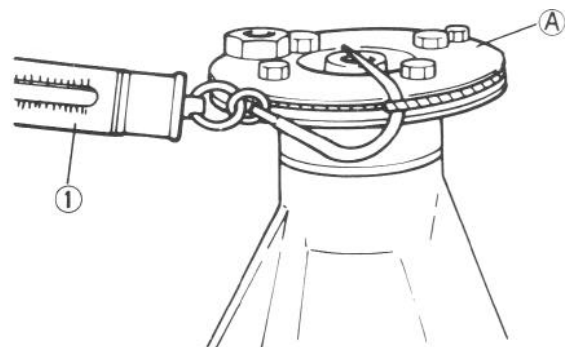

Fig. 16-23 ① Spring balance
The bevel pinion, as installed in normal manner in carrier, is required to offer a certain torque resistance when checked by using prescribed preload adjuster (special tool A) as shown in Fig. 16-23. This resistance is a "preload," which is due to the tightness of the two tapered roller bearings by which the pinion is held in the carrier. And this tightness is determined primarily by tightening torque of bevel pinion nut. Adjust preload of bevel pinion bearings as follows.
- Adjust preload on side bearing during back-lash adjustment: mount special tool on drive bevel pinion as shown in Fig. 16-23 and measure using spring balance ①. If reading at the instant bevel gear starts moving is within the range given below, side bearing preload is acceptable. Referring to the graph, for example, when the drive bevel pinion bearing preload measured as shown in Fig. 16-23 is 2.6 kg (5.73 lb), drive bevel pinion bearing preload (kg) + bevel gear side bearing preload (kg) should be 2.8 – 3.2 kg (6.17 – 7.05 lb).